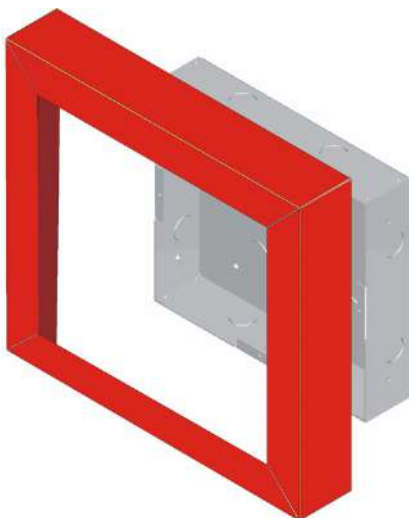

Figure 4.16 Installing Trim Ring
4. Place the trim ring over the backbox as shown in Figure 4.16.